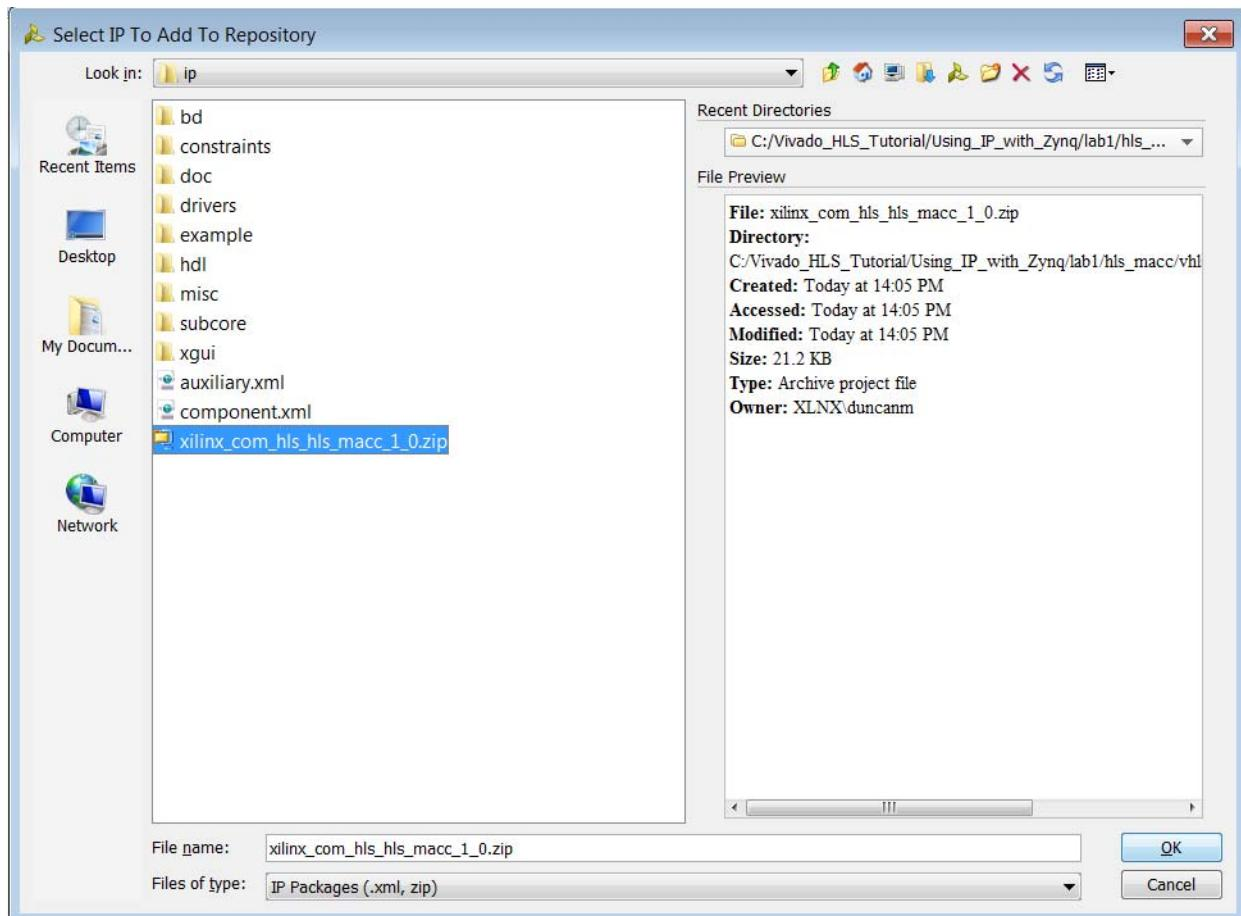

Figure 10-10: Add IP to the Repository
- c. Select the IP Catalog package `Xilinx_com_hls_macc_1_00.a.zip` file (Figure 10-10).